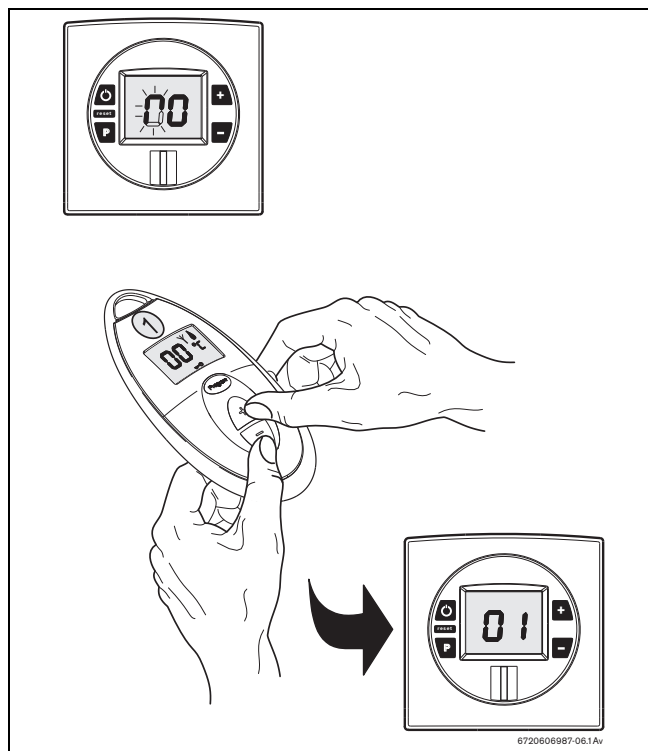

Fig. 13 Remote control activation
- Point the remote control at the equipment and simultaneously press the buttons  and  on the remote control (Fig. 13).